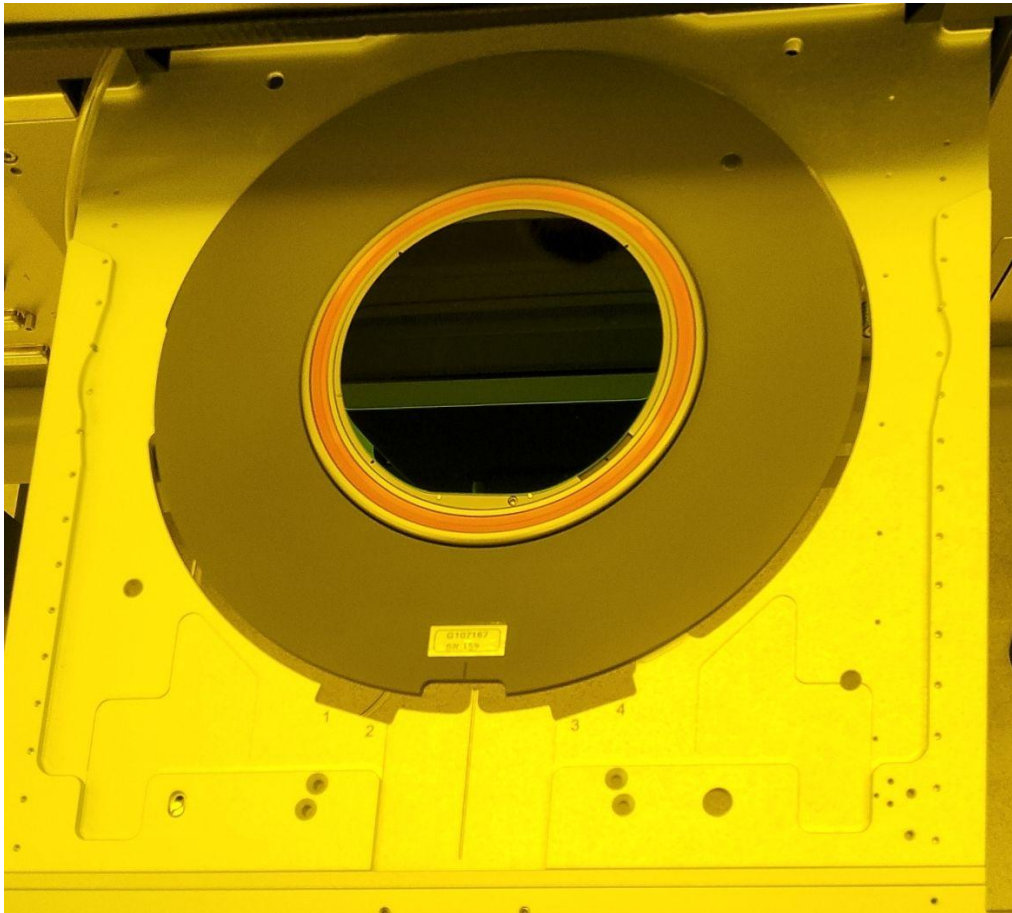

Figure 4.
3. Place the wafer chuck and the wafer on the slide. Click Next. A photo of a wafer on the chuck is shown in Figure 4.